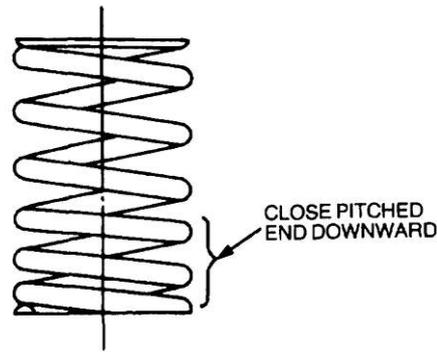

Figure 11 Valve Spring
- r. Position the inner and outer springs over their respective valve with the tighter wound coils of the springs towards the cylinder head (Figure 11).